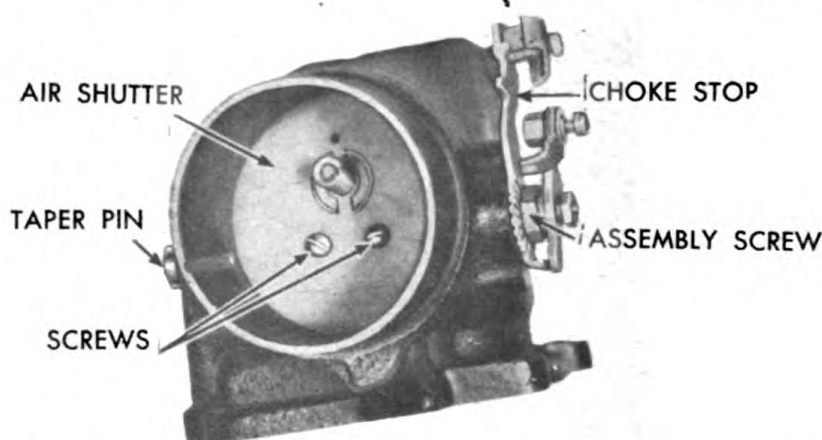

Figure 263. Carburetor Air Shutter Shaft & Lower Assy.
Y. Remove the air shutter (choke) plate screws and lockwashers and pull out the air shutter plate from air entrance. Figure 263.
Z. Remove the air shutter (choke) lever retainer nut and lockwasher and remove lever and thrust washer from end of air shutter shaft. Figure 263.